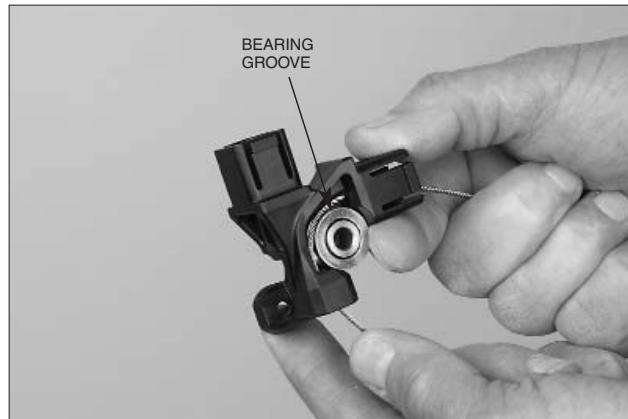

FIGURE 68
5. Place the bearing against the wire rope. Make certain wire rope is in the bearing groove. See Figure 68.